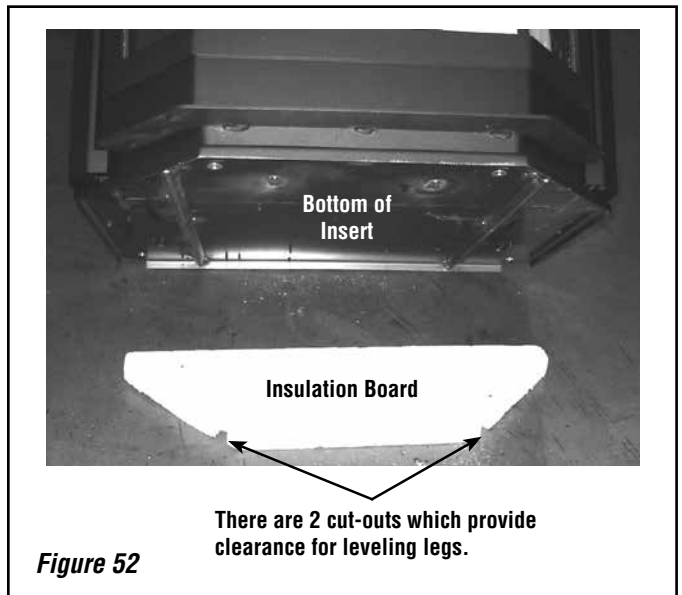

Figure 52
3. Set the insert on the insulation board. Now that the insert is level, place your insulation board in place where the insert will be installed and set the PI40 insert over the insulation board so the two front leveling legs line up with the two cut-outs in the front of the insulation board (see **Figure 52**). Your PI40 heat kit is now installed.